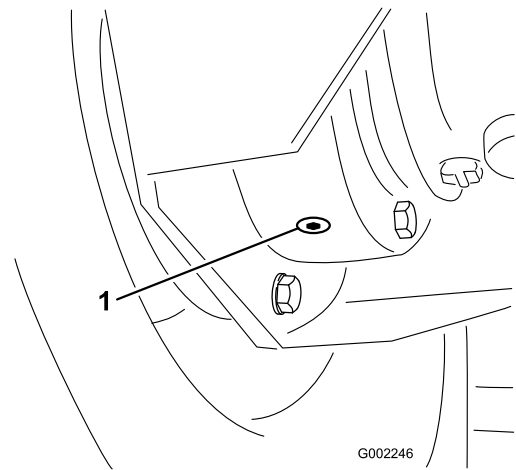

Figure 84
4. Align a pan under the inner drain plug at the brake housing and remove the plug (Figure 84).